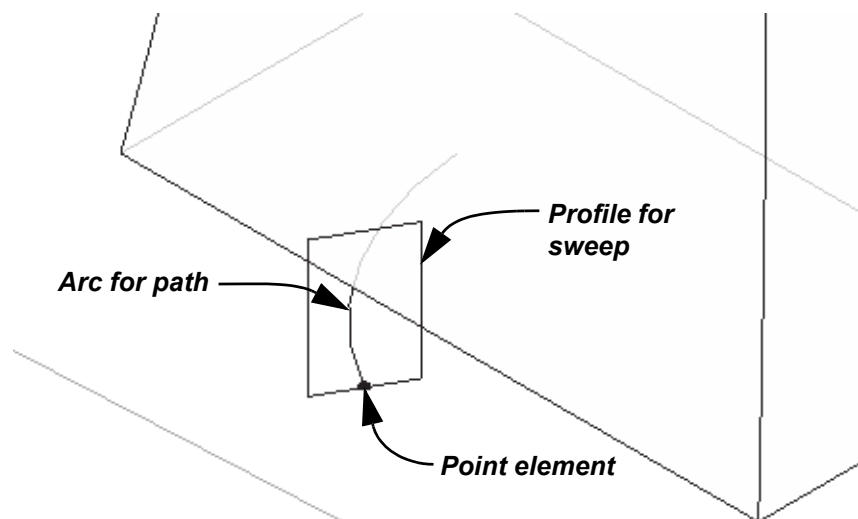

Figure 1–56
3. Draw an arc, as shown in Figure 1–56. This is the path for a sweep. It needs to start outside the existing mass to create the expected void form.